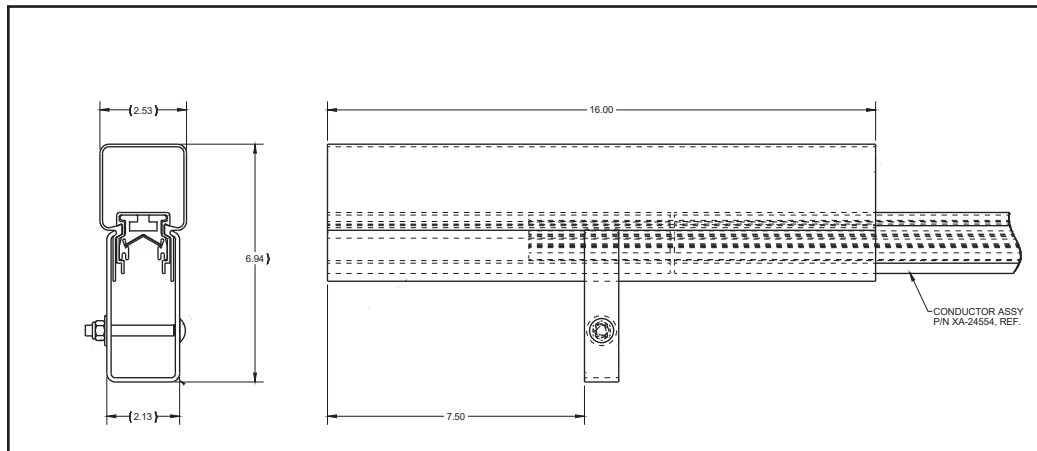

Figure 35-1
- A reference drawing of a high heat end cover is shown in **Figure 35-1**.